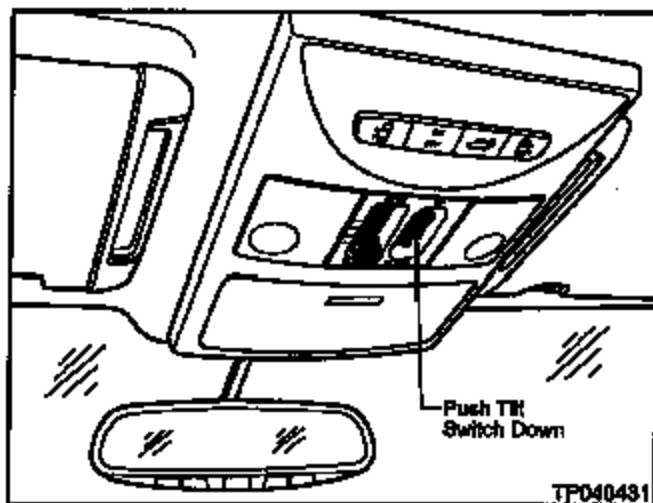

Figure 20
- Push the Sunroof Tilt Switch in the tilt **DOWN** position (repeat as necessary) until the Sunroof is fully closed. See Figure 20.
- Then, push and hold the Sunroof Tilt Switch (see Figure 20) in the tilt **DOWN** position for more than 2 seconds.